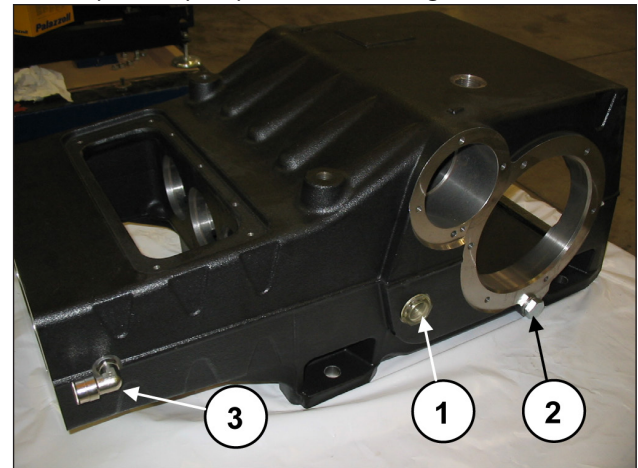

Fig. 48
Attach the two oil level indicators, the two oil drain plugs and the 90° quick coupler (pos. ①, ② and ③ Fig. 48).